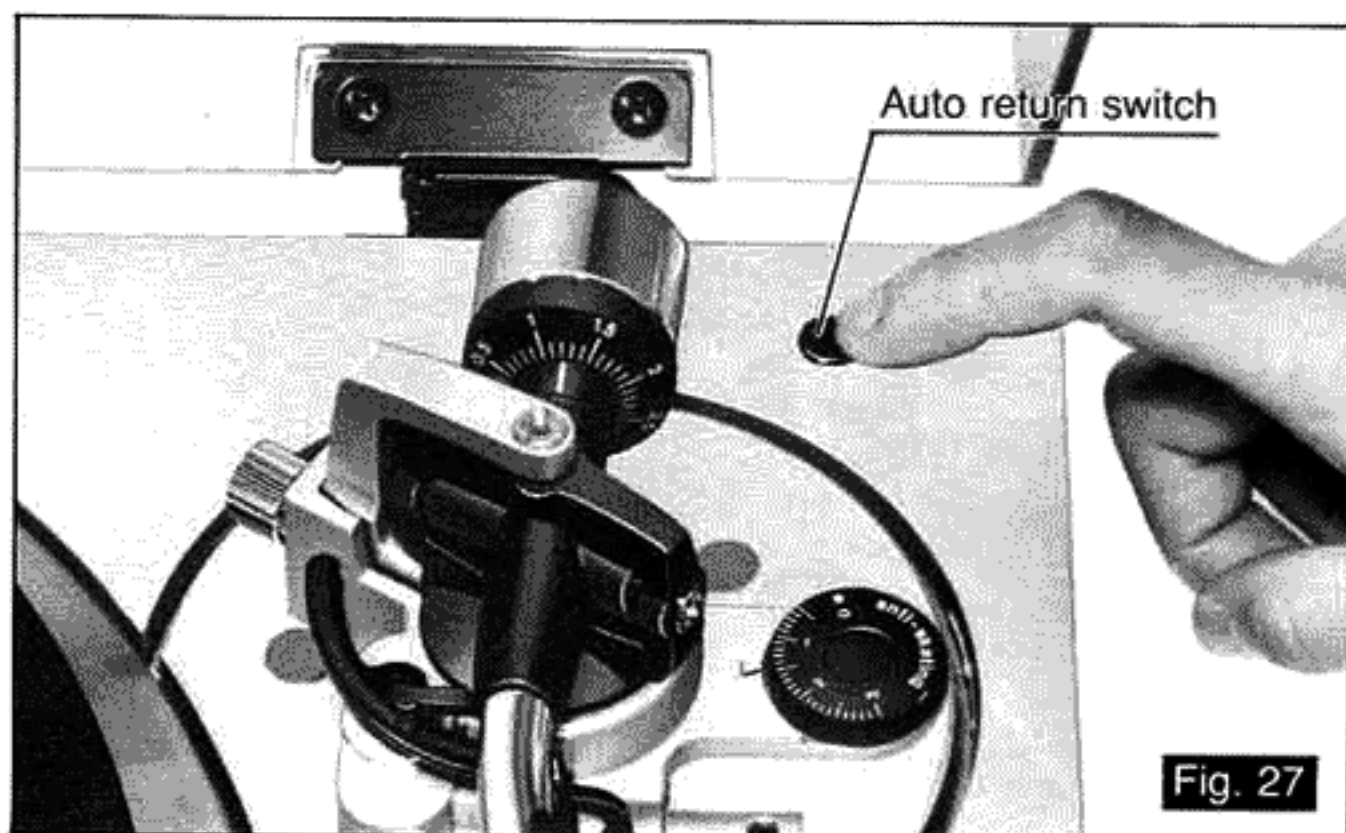

Fig. 27
- Should any phono disc whose central hole is off center be played, the tonearm will automatically return during the course of performance. In such a case, set the auto return switch to the OFF (■) position (see Fig. 27), and then the phono disc can be played to the final groove.